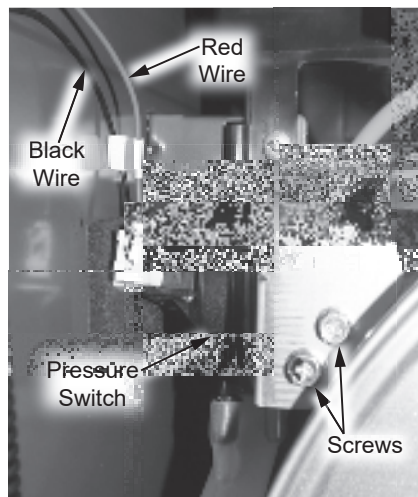

Figure 70 - Pressure switch location
4 Locate the pressure switch on upper left side of the water heater. See Figure 70.
5 Disconnect the black wire harness from the common (C) connector and the red wire harness from the normally closed (NC) connector. See Figure 70.
6 Remove and keep the two screws securing the pressure switch to the water heater. See Figure 70.
- 14** Reconnect the black wire harness to the common (C) connector. Reconnect red wire harness to the normally closed (NC) connector. See Figure 70.